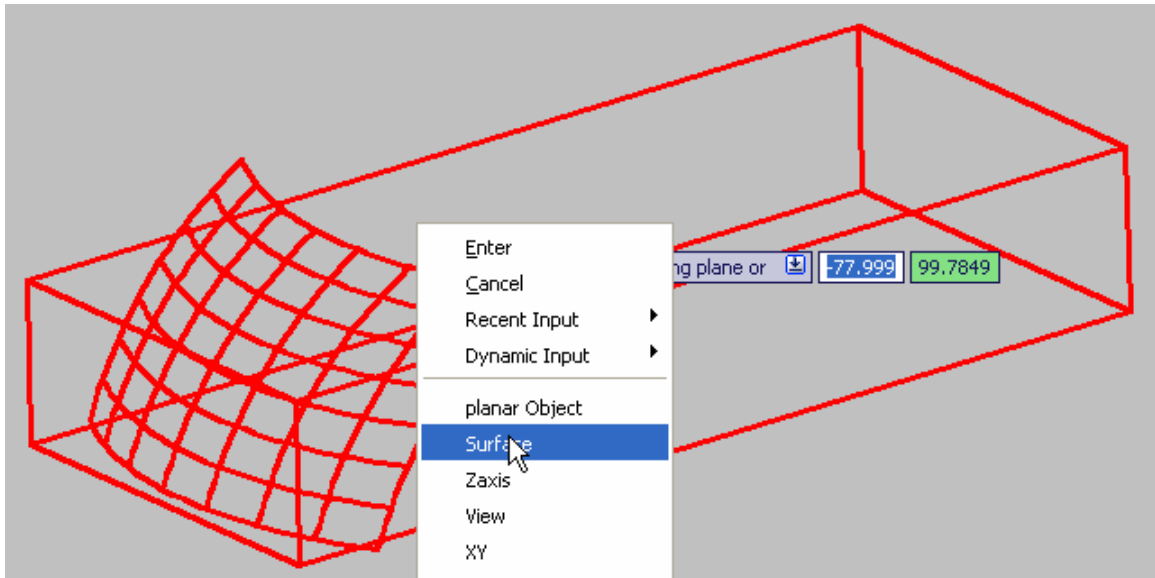

Figure 7
7. After selecting the Slice tool follow the prompts in the graphics window. First select the solid. Then press Enter and RMB select Surface from the menu and then select the surface. If you get a warning about erasing the solid history click OK. Finally, select the part of the solid you wish to keep – in this case the solid to the right of the image in Figure 7.